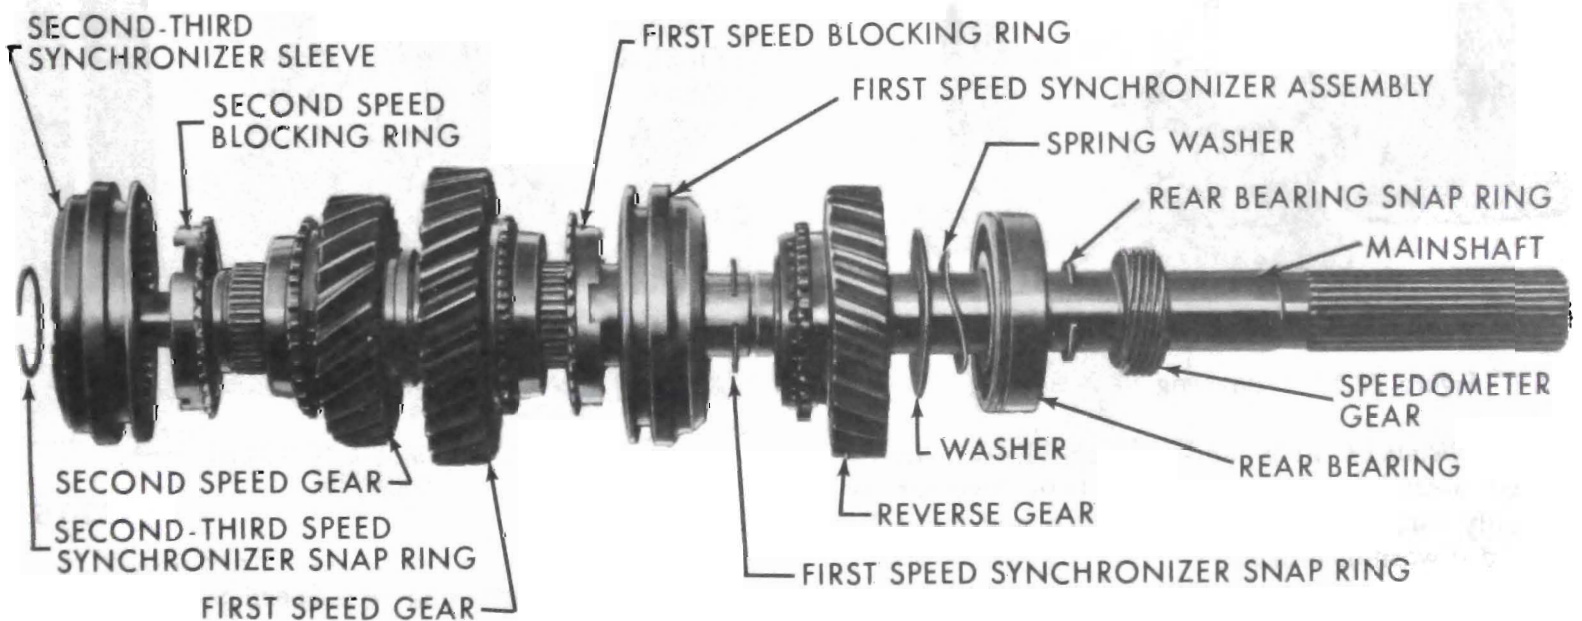

Figure 72-8 - Exploded View of Mainshaft
2. Remove second-third synchronizer sleeve. See Figure 72-8.